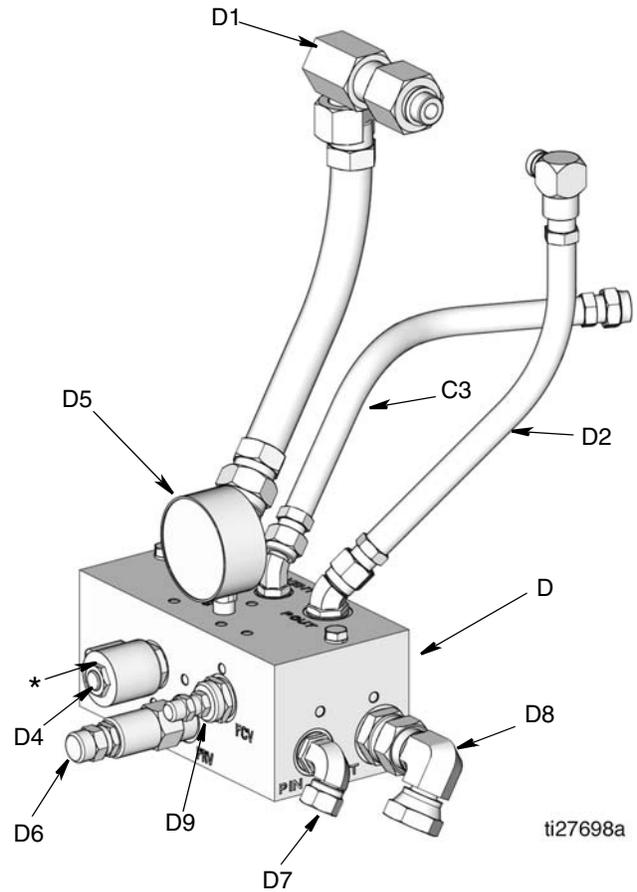

**FIG. 2**
- C Vent Valve (FIG. 2, page 6)
**Auto-Fill Shut Off (1)**
- 13 Pipe tee fitting (replaces elbow C5 (FIG. 2, page 6))